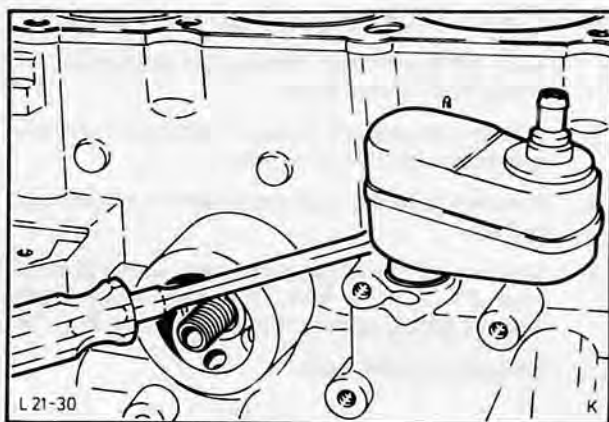

Fig. 81. Remove oil separator using a screwdriver
15. Remove oil pressure switch and prise oil separator out of engine block, using a screwdriver, Fig. 81.